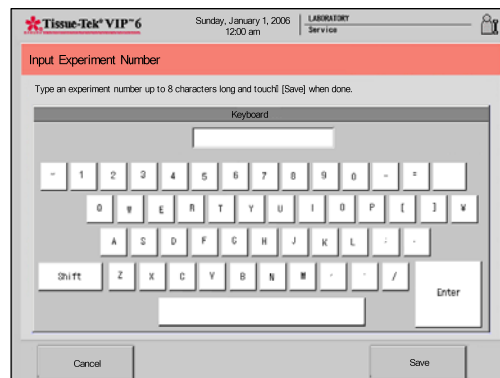

Figure 4-E
- The **Experiment Number** screen is displayed (Figure 4-E).